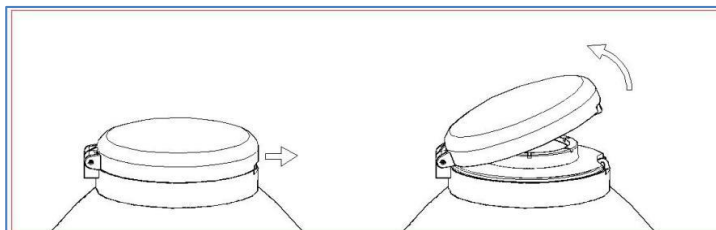

Figure 2
- At the locking position on the container lid, insert your fingers (index and middle fingers) and firmly grasp the upper edge of the lid, exerting and maintaining a certain force outward, and then flip it upwards to open the container lid (see Figure 2).